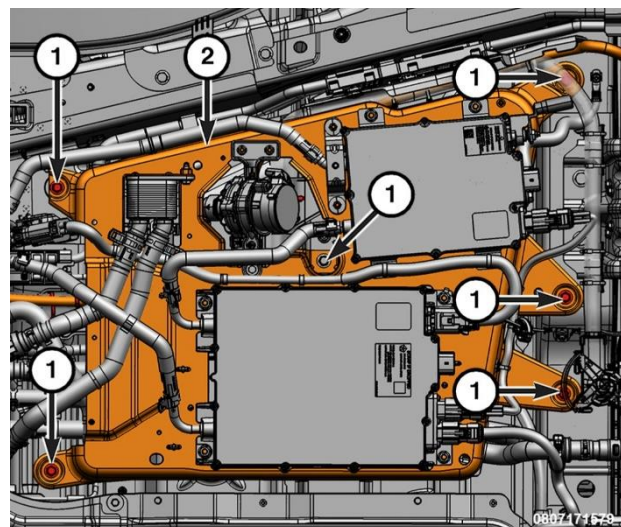

Figure 34 – Battery Charger Bracket
20. Position a suitable stand to support the battery charger bracket (2) and remove the fasteners (1) (Figure 34).
29. Position the battery charger bracket and tighten the fasteners to 25 N·m (18.5 ft. lbs.) (Figure 34).